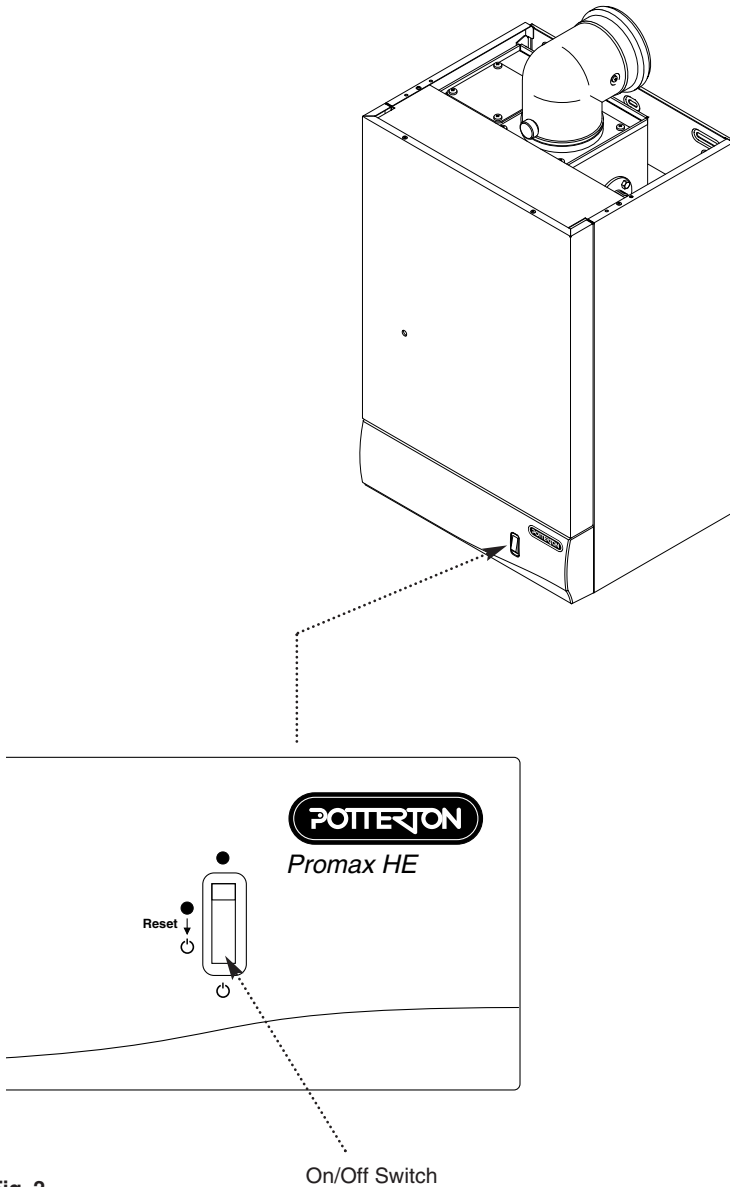

Fig. 2
4. Press the boiler on/off switch off (Fig. 2).
6. Press the boiler on/off switch on (Fig. 2) and the boiler will fire up automatically.